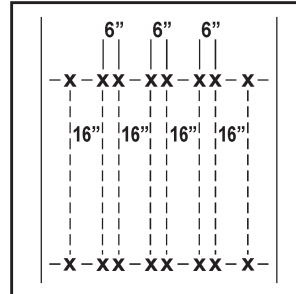

Figure 34
6. Apply surface preparation adhesive on the entire area marked out using straight passes with the PS-14 Spray Applicator (see Figure 34).